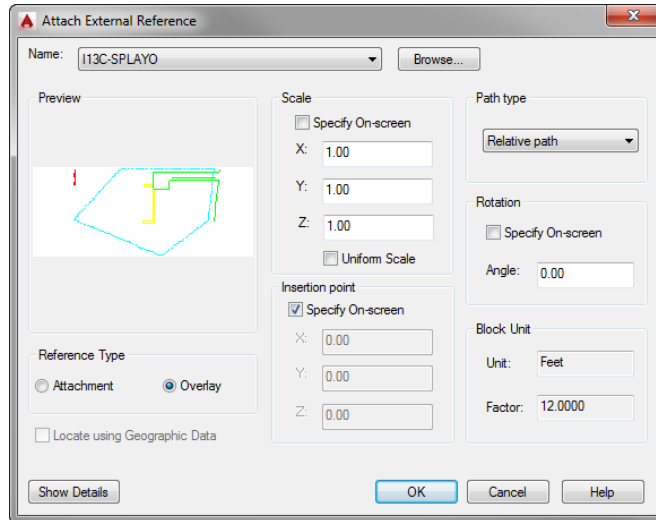

FIGURE 13.14: The Attach External Reference dialog box with I13C-SPLAYO (M13C-SPLAYO) as the named reference
- Click Open to open the Attach External Reference dialog box, and then click the Show Details button in the bottom-left corner to display the reference paths (see Figure 13.14).
The file being referenced, I13C-SPLAYO.dwg (M13C-SPLAYO.dwg), appears in the Name drop-down list at the top of the dialog box, with the full path of the file's location at the bottom. The middle of the dialog box contains three options for the insertion process, which are like those in the Insert dialog box that you used for inserting blocks in Chapter 7. Note that only the insertion point is set to be specified on the screen. The Scale and Rotation options should be set to use their default settings. If they aren't, click the appropriate check boxes so that this dialog box matches Figure 13.14. Continue as follows:
The Attach External Reference dialog box should look like Figure 13.14.